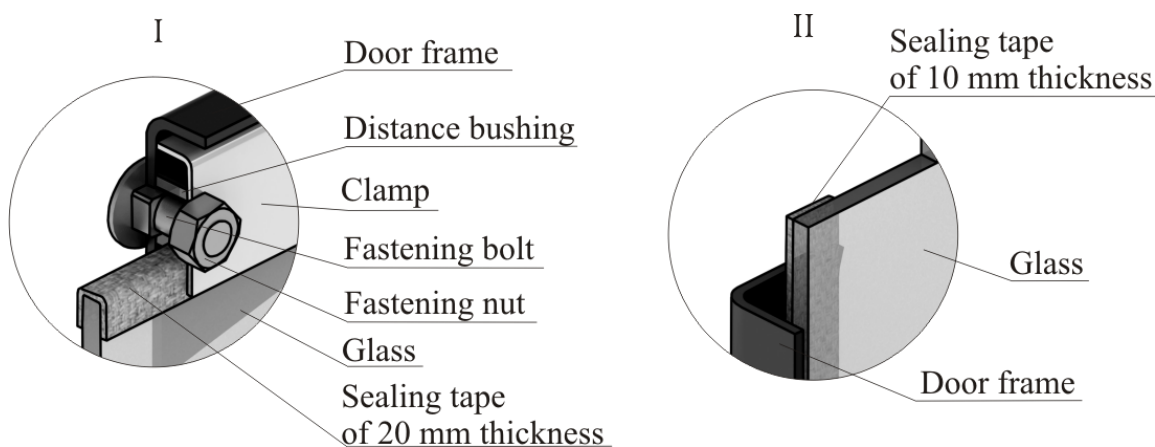

Figure 17. Fastening of translucent screen of the «Vitra» model door
1. Unscrew two nuts fixing the clamp (figure 17.I), and disassemble it and distance bushings.
3. Take new glass and if it doesn't have thread sealing tape stick them: tape of 20 mm in width is stuck from the top and from below the glass, in a «II» shape (figure 17.I), tape of 10 mm in width is stuck vertically, along the lateral sides of the glass (figure 17.II).
4. Insert the glass into the stop, at that the tape stuck from the lateral sides (vertical) shall be pressed between the glass and the door frame (figure 17.II).